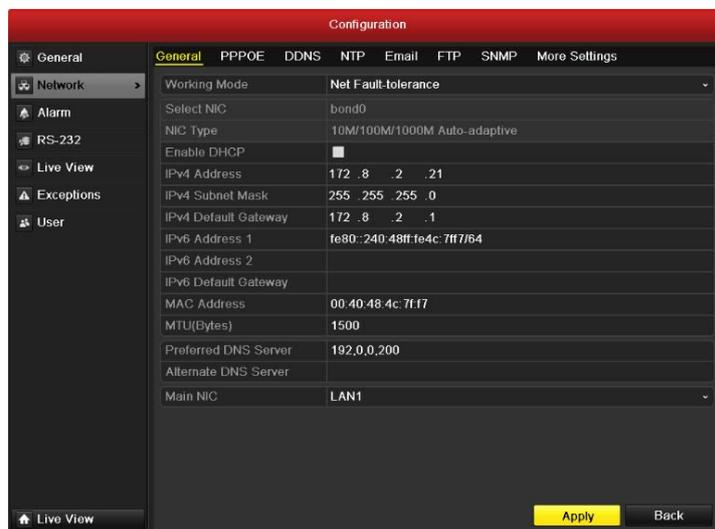

Figure 9.19 Network Settings Interface
3. Set **Multicast IP**, as shown in Figure 9.19. When adding a device to the Network Video Surveillance Software, the multicast address must be the same as the DVR's multicast IP.
2. Set the IPv4 Address, IPv4 Subnet Mask, IPv4 Gateway and the Preferred DNS Server in the Network Settings menu, as shown in Figure 9.19.